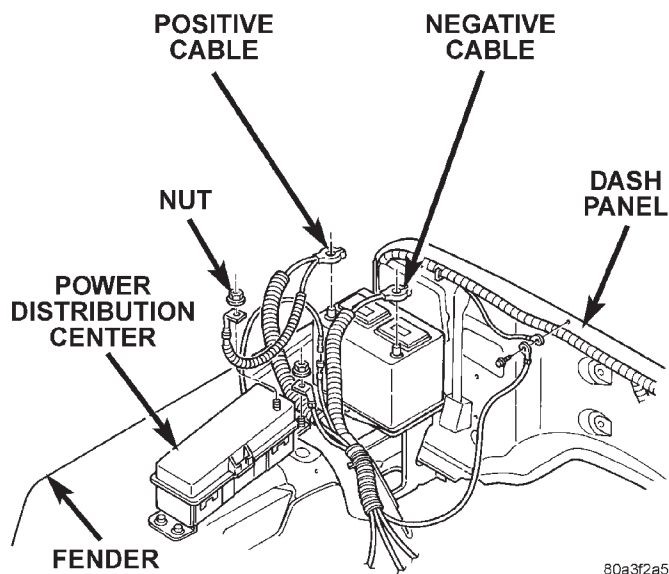

Fig. 21 Battery Cables
(11) Reinstall the battery thermoguard by sliding it over the battery case.
(12) Position the battery in the tray. Ensure that the positive and negative terminal posts are correctly positioned. The cable terminal clamps must reach the correct battery post without stretching the cables (Fig. 21).
(13) Loosely install the battery holddown hardware. Ensure that the battery base is correctly positioned in the tray, then tighten the holddowns to 4 N·m (35 in. lbs.).